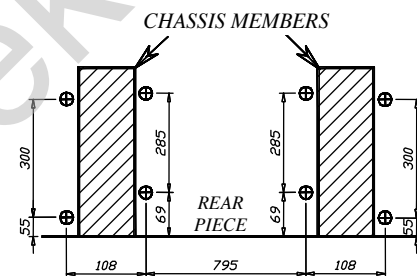
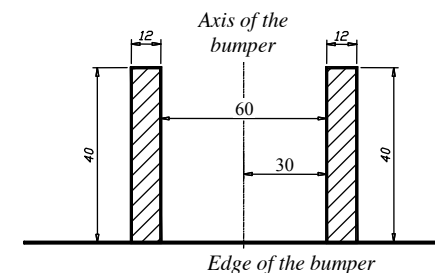

Fig. 2 View from the bottom of the car (after take off the bumper)
Fig. 3
2. From the bottom of the car mark points according to fig. 2. Next drill holes using bit $\varnothing 11\text{mm}$, make it very carefully.
3. Inside the trunk put suitable upper fish-plates (pos. 8) on to made holes.
4. From the bottom of the car put side brackets (pos. 4 and 5) and through holes (pos. A) and fish-plates (pos. 8) fix using bolts M10x35mm (pos. 10).
5. From the bottom of the car put fish-plates (pos. 6 and 7), next through holes (pos. B) and fish-plates (pos. 8) fix using bolts M10x35mm (pos. 10).
6. Through holes (pos. C) fix main bar of the towbar (pos. 1) with side brackets using bolts M12x35mm (pos. 9).
8. Install the bumper after cut out of its fragments (see fig. 3).
9. Fix body of the automat and place tow-ball according to supplied instruction. Note! Remember to place socket plate (pos. 3) as shown on the drawing 1.